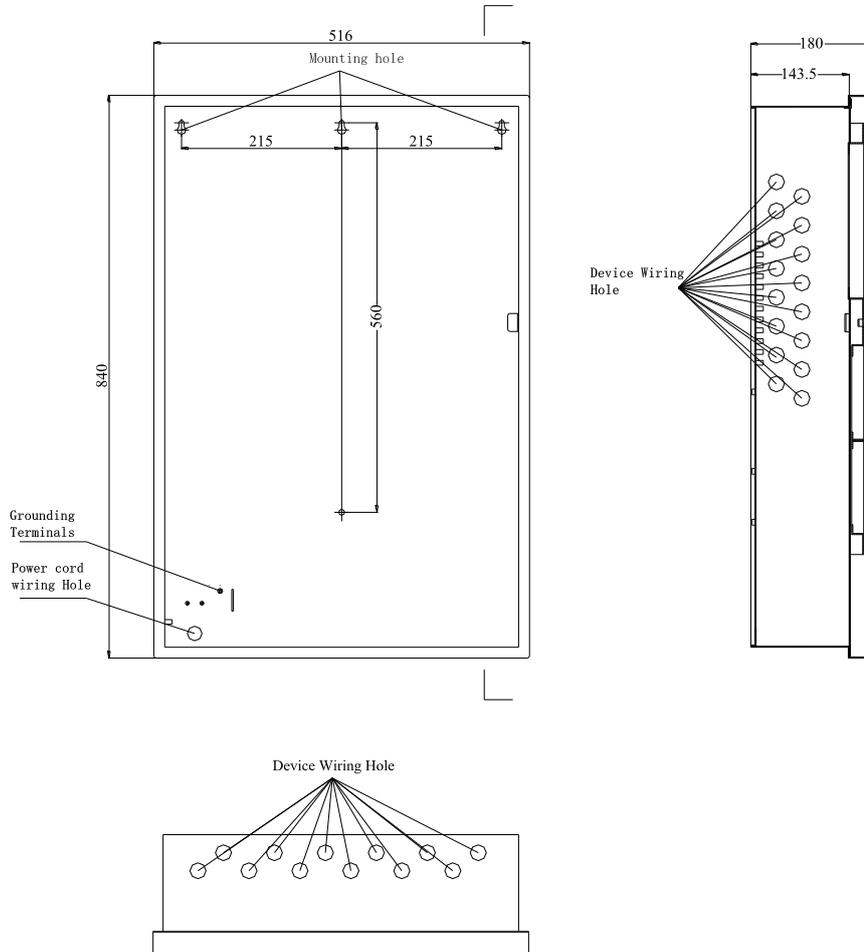

Fig. 2.1
The FACP can be flush-mounted or wall-mounted. The dimensions for wall-mounting are shown in following Fig. 2.1
- ✧ Mark and predrill holes in the wall for the three keyhole mounting bolts using the dimensions illustrated in following Fig. 2.1.
Connect a wire from the grounding stud in the cabinet to a known solid earth ground in the buildings. Refer to Fig. 2.1 for location of the stud. This connection is vital for maintaining the FACP's immunity to unwanted transients generated by lightning and electrostatic discharge. Apply AC power to the panel only after the system is completely installed and visually checked. The FACP shall be connected to a dedicated 15 Amp branch circuit.